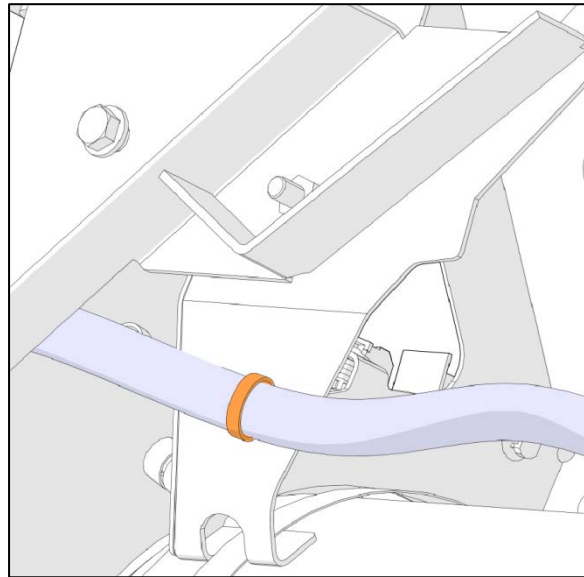

Figure 25
28. Fix the overflow hose on the tank support with a cable tie as shown on Figure 25.